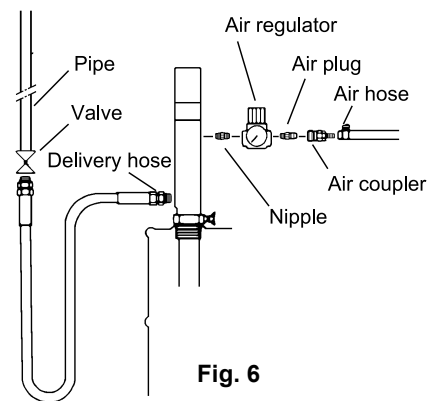

Fig. 6
- The material hose used should have pressure resistance of 3 MPa or more and be oil resistant. When an adequate hose is not available, place an order with our dealer for a special purpose hose by the following production number. (Fig. 6)
[Precaution for installation] - Do not directly connect the piping to the pump. Direct connection damages the piping by vibrations when running the pump, causes noises, and in case of the drum pump, makes it impossible to replace the drum can and disables maintenance of the pump. (Fig. 6)